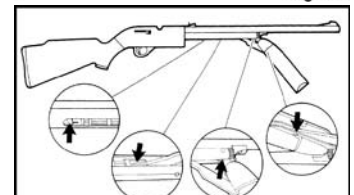

Fig. 15
- Your airgun will maintain proper function longer if you oil it every 250 shots. Put one drop of Crosman 0241 Pellgunoil® on the pump pivot pins and the pump cup in the pump mechanism. (Fig 15) DO NOT use petroleum distillate based oil or solvent and DO NOT over-oil as this can cause damage to your gun.